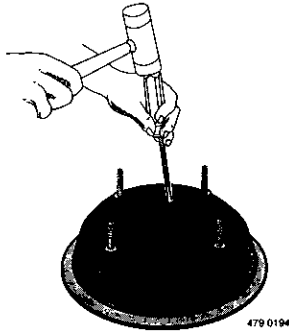

Figure 16 – Tap Out Seal
- Place pump body half face down on flat surface and tap out stationary half of seal (see Figure 16).